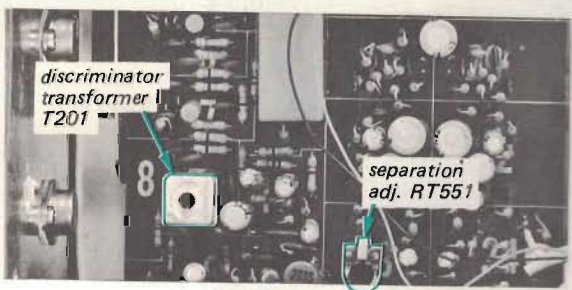
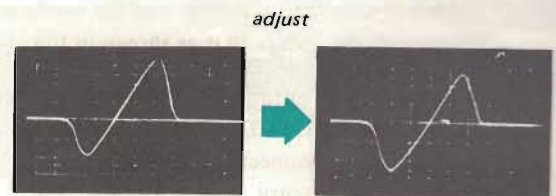

Fig. 3-5 Parts location
Fig. 3-7 "S" curve response
4. Turn the top core (secondary side) of discriminator transformer T201 (See Fig. 3-5) with an alignment tool to obtain the "S" curve response, and equalize the positive and negative peaks of the "S" curve response, as shown in Fig. 3-7.